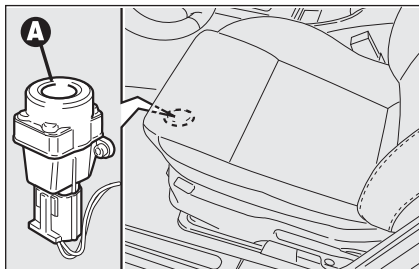

fig. 61
To reset the fuel cut-off switch, press button **A-fig. 61**.
- press button **A-fig. 61** to reset the fuel cut-off switch;